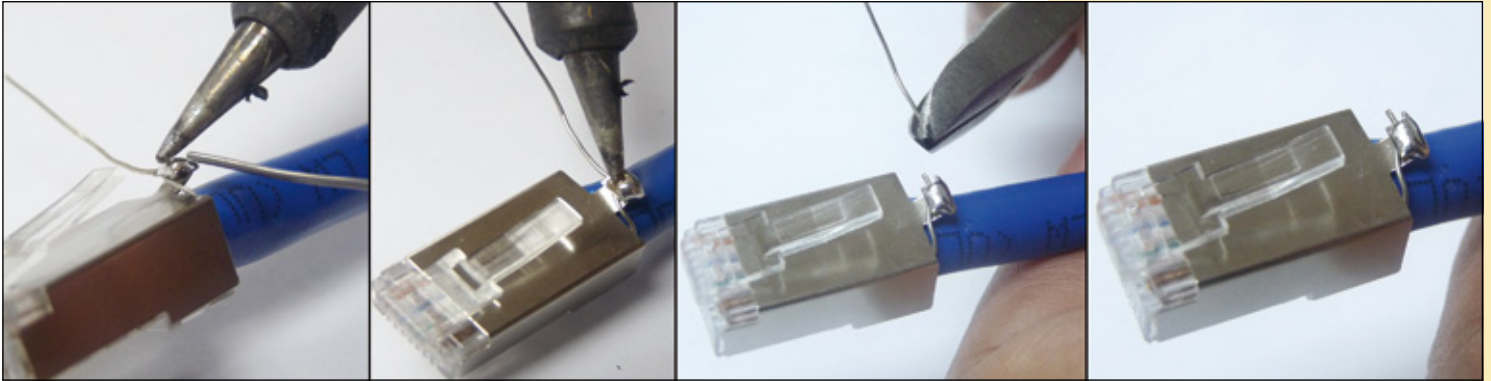

Figure 24
- 19 Proceed to apply heat with the tip of the solder iron and then apply a tiny amount of solder until it flows and covers the two parts without excess solder as it might not enter the boot opening and without moving the part to avoid the formation of a cold solder joint. Once the solder sets and cools, proceed to cut the excess drain wire. (Please see the images of Figure 24).